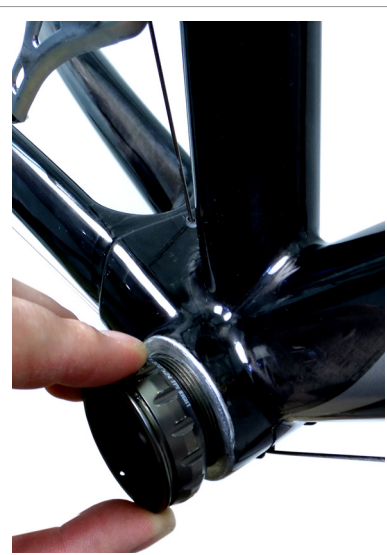

Fig.4
- Take the bb right cup, screw it in fully (Fig. 4) and tighten at **35 Nm (310 in.lbs)** with the Campagnolo UT-BB130 tool and the torque wrench (Fig. 5).